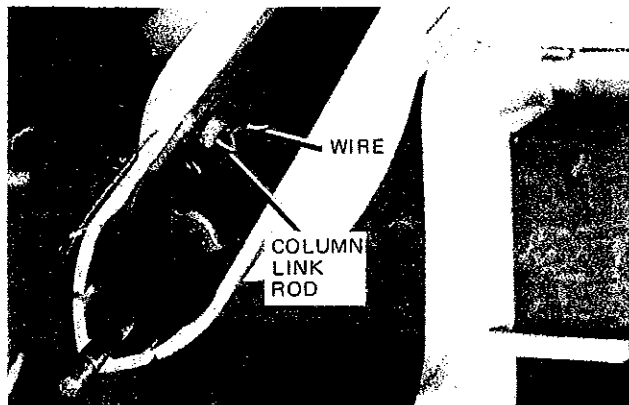

Figure 33. Hold column link rod in place with wire.
- A. Use a piece of wire to tie back the column link rod (Figure 33).